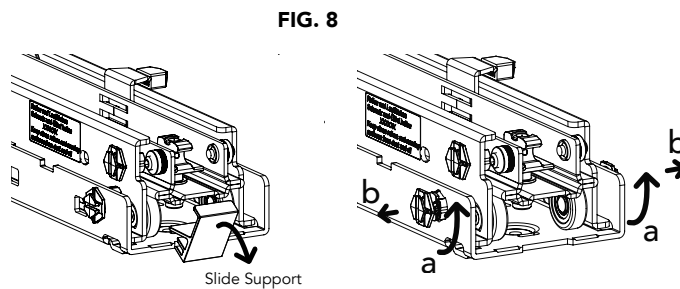

FIG. 8
Prepare the bottom slide by disengaging the slide support from the mounting plate and removing the (3) grey caps from the slide with a flathead screwdriver by turning a quarter turn and set aside for later during the installation process (See Fig 8).